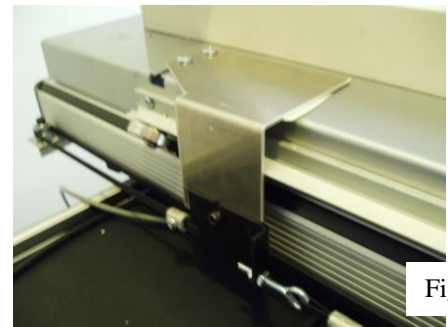

Fig 9
2. Locate the carriage bracket and (2) 10-24 x 1/2” screws and washers.
3. Attach the bracket to the pre-cut groove in the top carriage. Note: The distance between the bracket and the wheel bar can be adjusted to ensure the belt is straight when attached (fig 9)